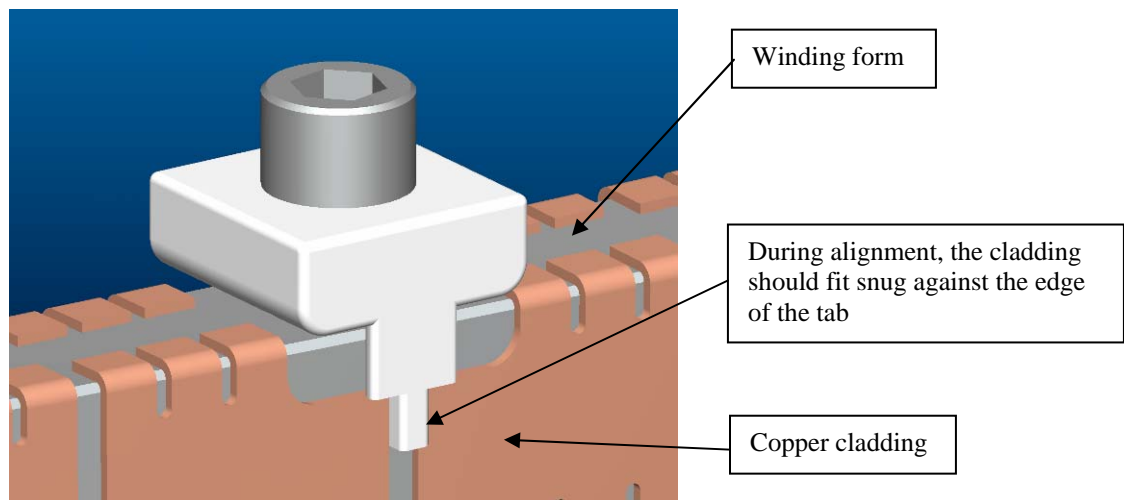

Figure 24- Cladding Positioning Block
- Use the cladding positioning block [Figure 24- Cladding Positioning Block, to fitup and align the vertical cladding strips.